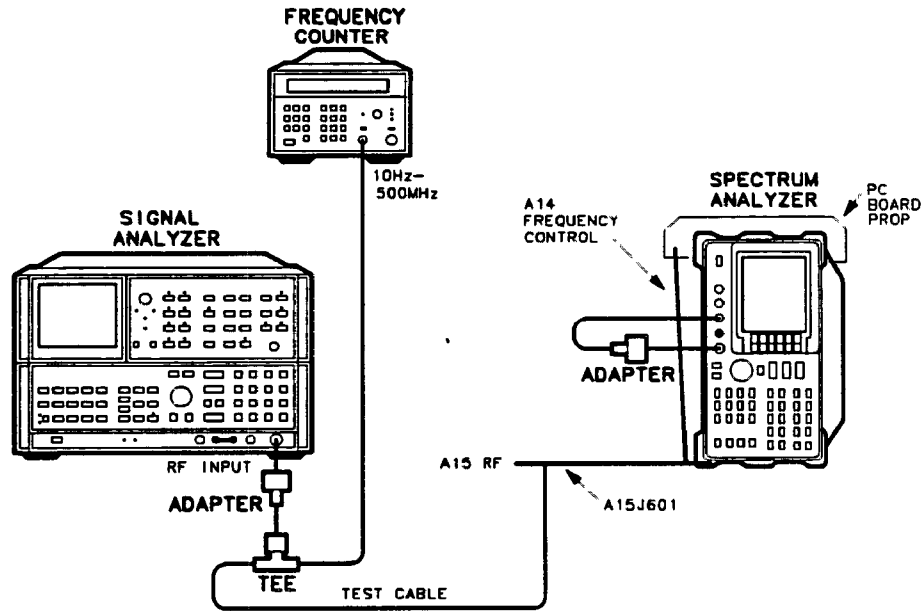

Figure 2-19. Signal ID Oscillator Adjustment Setup
2. Connect the HP 8562A/B CAL OUTPUT to the INPUT 50Ω using a Type N-to-BNC adapter. Disconnect cable W29 from A15J601 (10.7 MHz IF out) and connect the SMB end of the test cable to A15J601. Connect the rest of the equipment as shown in Figure 2-19.